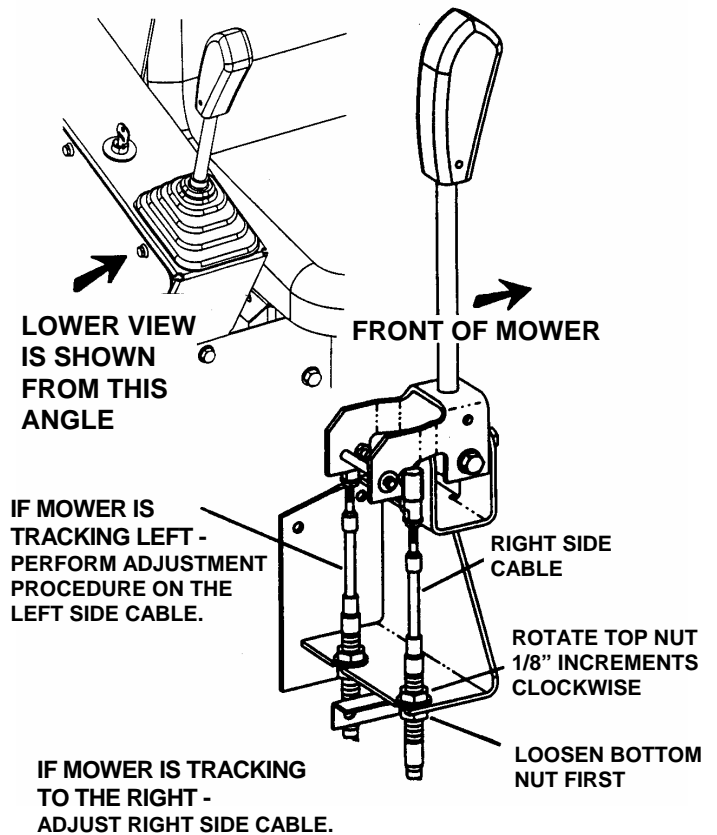

FIGURE 4.15
3. Place the positive (+) terminal insulator over positive terminal and cable. See Figure 4.15.